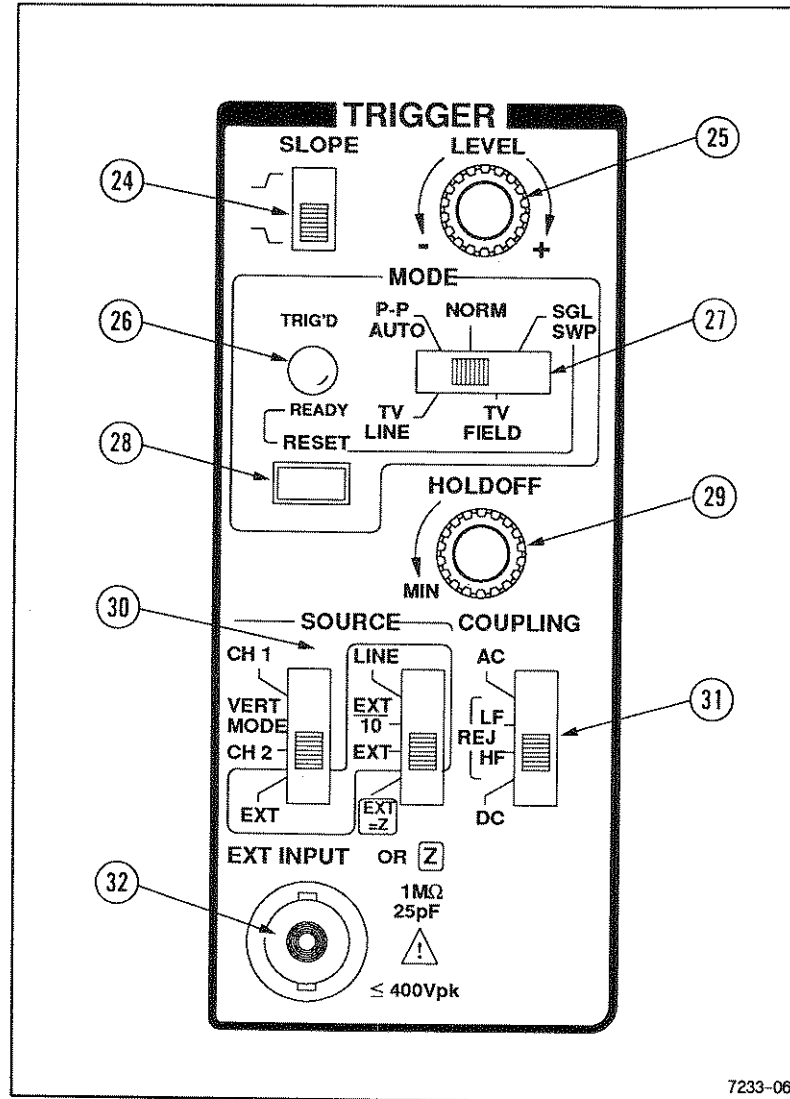

Figure 3-4. Trigger controls.
See Figure 3-4 for location of items 24 through 32.
②④ **Trigger SLOPE Switch**— Selects either the positive or negative slope of the trigger signal to start the sweep.
②⑤ **Trigger LEVEL Control**— Selects the dc level that the Trigger signal must pass through to produce triggering. The Trigger point is displayed as a voltage readout in the display field unless any of the following are selected: